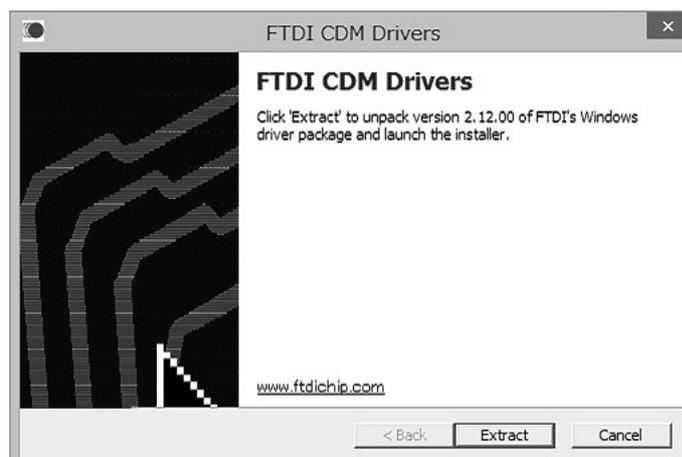

Fig. 8: FTDI CDM Drivers
- (1) Connect the KIT I/F cable to the USB port of the computer.
- (2) When "CDM v2.12.00 WHQL Certified" is executed, setup program starts and Fig. 8. FTDI CDM Drivers screen is shown.